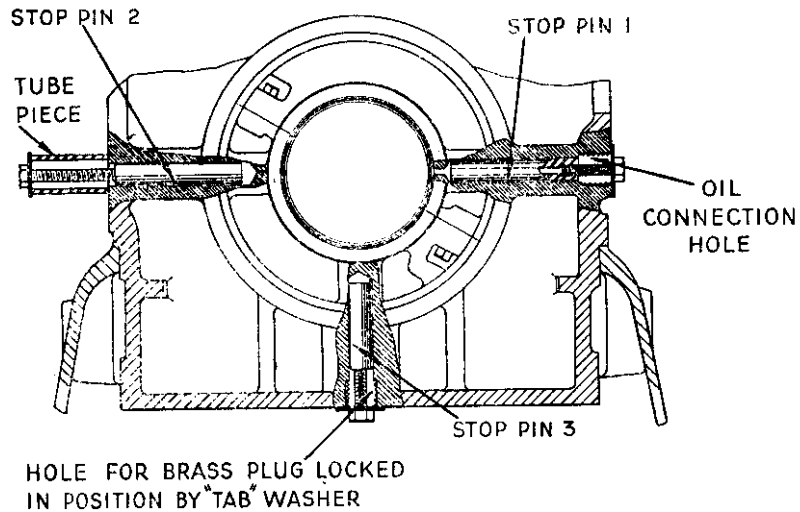
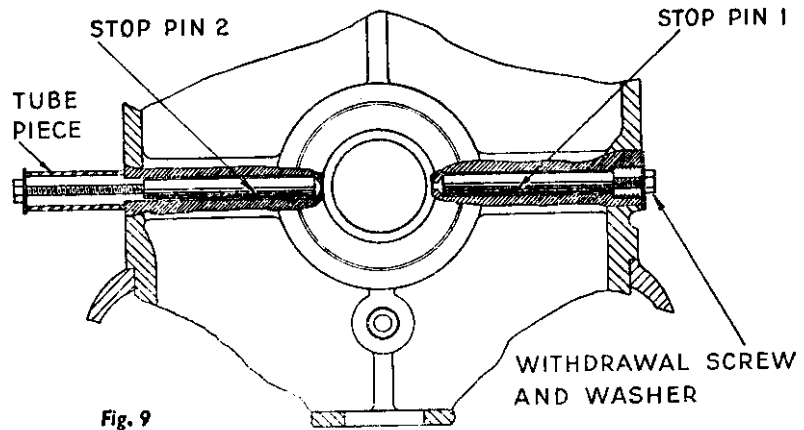

Fig. 8
Fig. 9
Fig. 8 shows the stops to be removed from thrust bearing housings.
Fig. 9 shows the stops to be removed from each end bearing housing on single cylinder engines. On engines of two cylinders and upwards one only stop (1) on Fig. 8, is fitted. The intermediate bearing housings on three and four cylinder engines are
fitted with two stops (1 & 3), on Fig. 8. The stops on VSH engines are drilled and tapped $\frac{3}{8}$ " whit. and VTH $\frac{1}{8}$ " whit. and should be withdrawn by setscrew, nut and $1\frac{1}{8}$ " outside diameter washer as shown. In some cases it may be necessary to use a short tube piece between washer and housing.
2. Replace Lubricating oil connection stops (1) on Fig. 8, taking care that the right length of stop is used and that the tapped end faces outwards, and that it is drilled right through.
3. Replace stops (2) on Fig. 8.
4. Replace stops (3) on Fig. 8, replace brass plugs and tab washers.
The bearing housings are delivered with one only hole drilled, i.e., for lubricating oil location stop (1) on Fig. 8 (this is the one that is countersunk), therefore each bearing housing has to be drilled and reamed for the other stops when the crankshaft is in position in the crankcase.